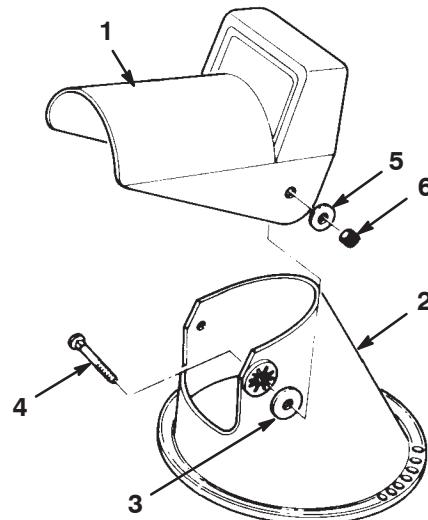

Figure 5
1. Position the chute deflector onto the discharge chute and align the mounting holes (Fig. 5).
2. Insert 2 rubber washers between the chute deflector and the discharge chute while maintaining the hole alignment (Fig. 5).
Note: Ensure that the square shoulders on the carriage bolts align with the inside square on the discharge chute. Position the metal washers to the outside of the chute deflector as shown in Figure 5. **Do not overtighten the bolts.**